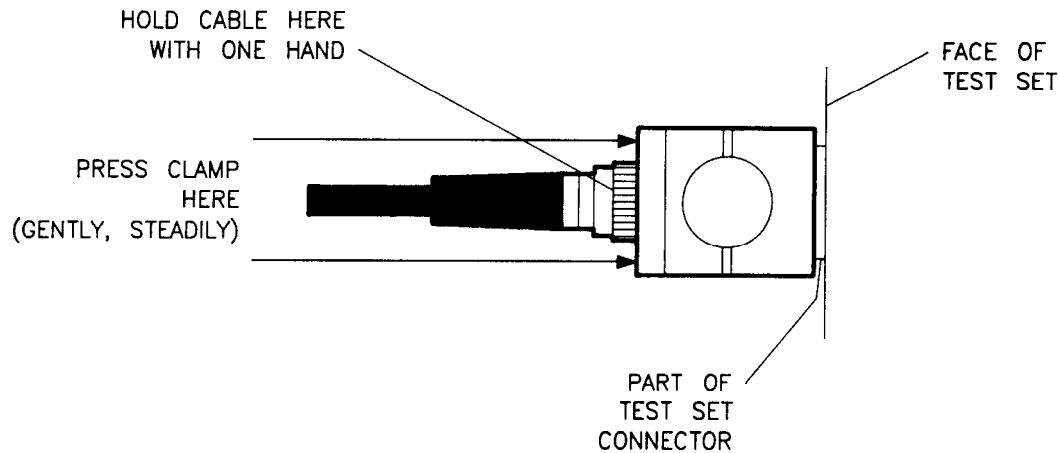

Figure 3-8. Mating the Clamp and Nut Flats
4. See Figure 3-8. Hold the cable with one hand and with the other, press the clamp gently and steadily while wiggling the clamp straight over the RF connector and onto the test port connector nut. The internal flats in the clamp must fit over the flats on the test port connector nut. Try not to rotate the clamp as you do this or the RF connection may be loosened.